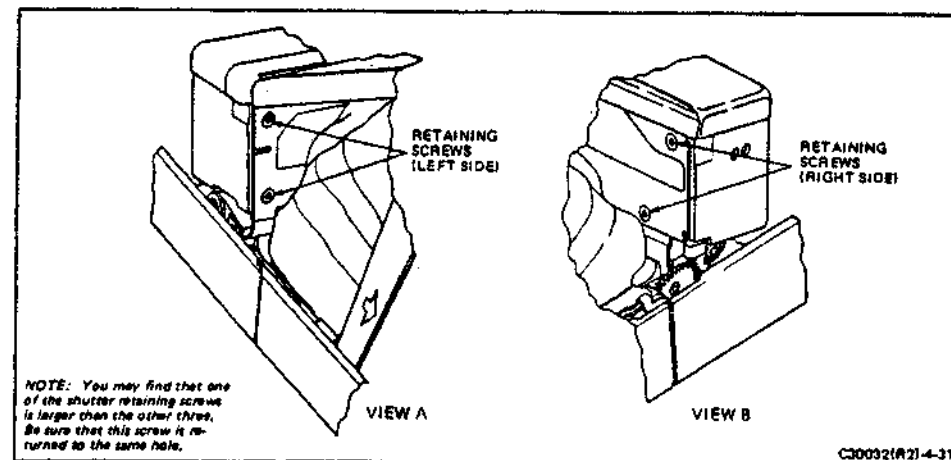

FIGURE 4-31 SHUTTER MOUNT RETAINING SCREWS
- c. At the back side of the shutter mounting bracket, remove four screws which secure the shutter (Figure 4-31).
- c. Align the shutter on the mounting bracket and secure it by installing the four screws previously removed (Figure 4-31).
12. At the backside of the shutter mounting hinge bracket, remove the four screws which secure the shutter to the bracket. See Figure 4-31. Lift off the shutter.
(c) Hook in the spring and push it in as far as possible. Arrange the spring coils without stress and clamp them in the bracket (Figure 4-31).